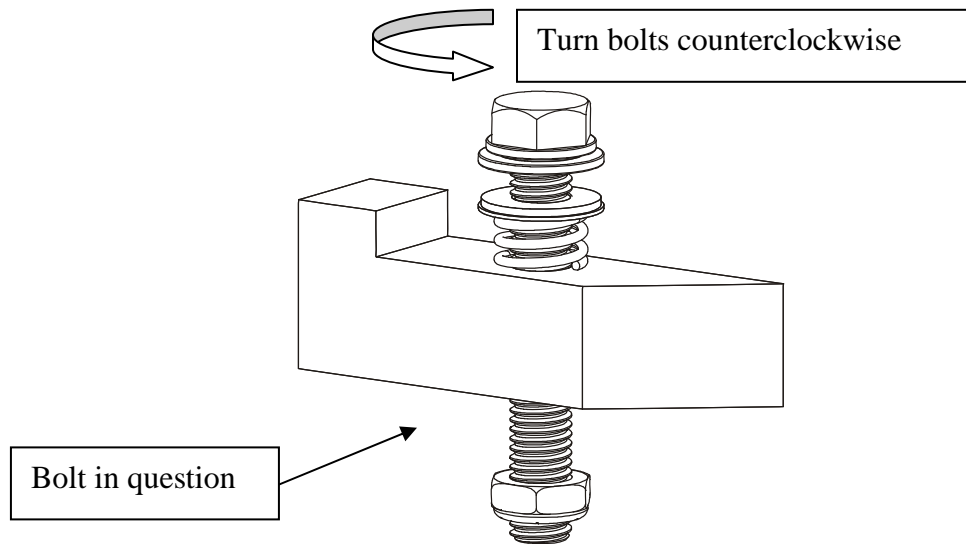

Figure 1
- 1.) To determine if the rotolock bolt is sufficiently long to pull the cover tight start by turning all rotolock bolts counterclockwise until they stop. The locknut will bottom out at this point. See Figure 1.